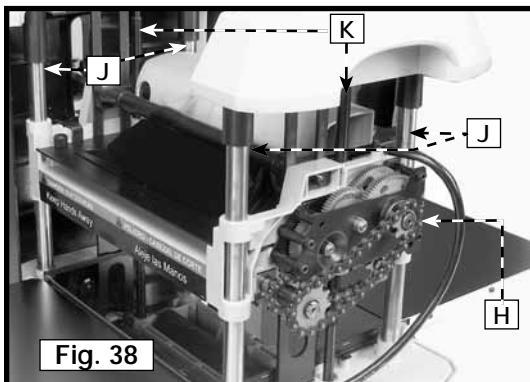

Fig. 38
2. Remove the screw (B) Fig. 38. Remove the depth stop assembly.
6. Place extreme pressure lithium grease on the gear teeth (H) Fig. 38. Replace the gear housing cover.
7. Clean and oil the columns (J) Fig. 38 and the spindles (K) with a light-weight machine oil.